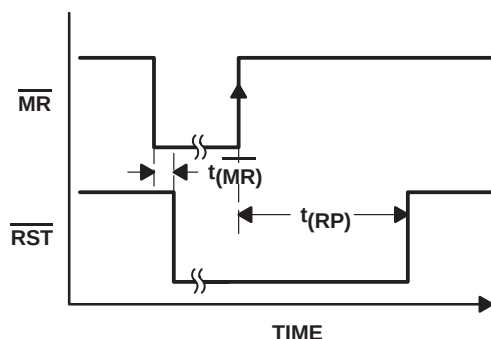

Figure 17. $\overline{\text{MR}}$ to $\overline{\text{RST}}$ Timing
The THMC50 includes a manual reset input, $\overline{\text{MR}}$. When asserted low (0), the $\overline{\text{RST}}$ output is asserted low. This output remains asserted as long as the $\overline{\text{MR}}$ input is asserted. Once $\overline{\text{MR}}$ is negated, this reset output continues to be asserted for 180 ms (typical) (see Figure 17). The $\overline{\text{MR}}$ input may be used by test equipment or external logic (e.g., front bezel panel reset button) to initiate a reset independent of power supply voltage status. It is recommended that a 0.1- μF capacitor be connected between $\overline{\text{MR}}$ and ground if the terminal is connected to a long lead/cable length.
Figure 17 through Figure 20 illustrate the timing relationship of the THMC50 reset generators.
- Figure 17 shows $\overline{\text{RST}}$ output behavior when the $\overline{\text{MR}}$ input is asserted low.